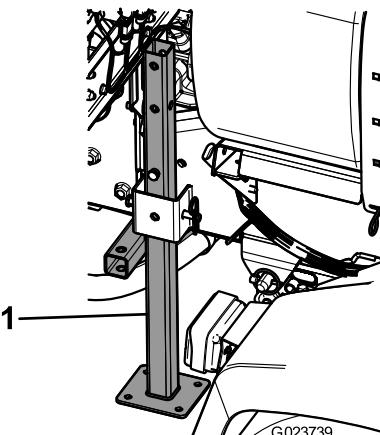

Figure 29
3. Insert the rear jack stands from the bottom, up into the frame, near the rear tie-down points (Figure 29).